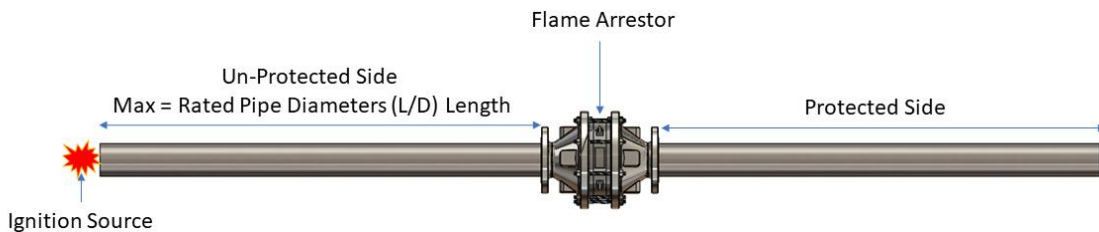

Figure 1: Straight Pipe, Allowable Installation Configuration
**See below *Figure 1*, Straight Pipe configuration diagram: